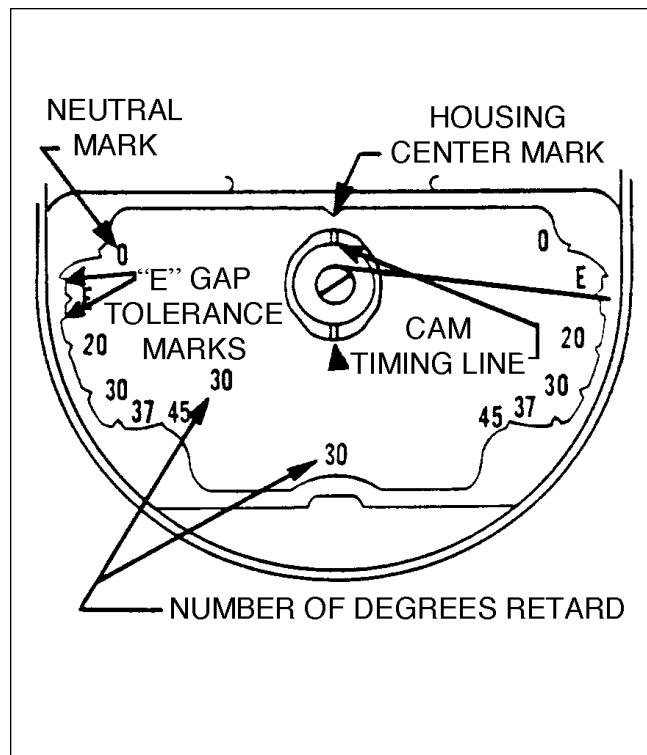

Figure 8-20. Breaker Compartment with Cast Timing Marks
- b. The -200 series magneto has "cast in" timing marks. (See Figure 8-20.)